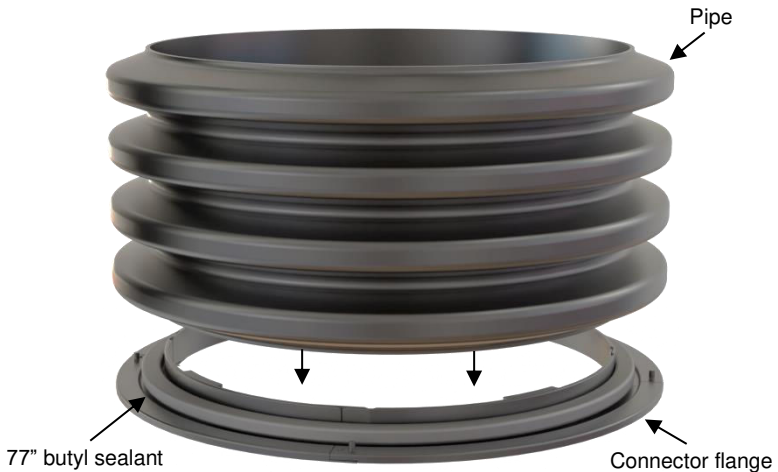

Figure 5: Installing butyl & pipe to connector
- 2.) Apply 77" of butyl sealant to the top of connector, overlapping and kneading the joined ends of the butyl rope together. (Fig. 5)
- 3.) Center the riser pipe on the connector flange so the inside gap is even all of the way around. When the even gap is achieved, lower the riser pipe onto the butyl rope. As required, make final adjustment and apply firm downward pressure to seat the riser pipe into the butyl sealant. Apply downward pressure all around riser pipe. (Fig. 5)